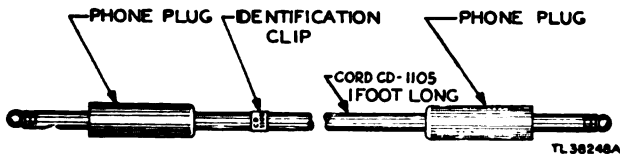

Figure 74. Cord CD-1105.
- d. Adjust potentiometer 93 (fig. 73) until a distinctive sharp pulse appears on each extremity of the baseline (fig. 74).